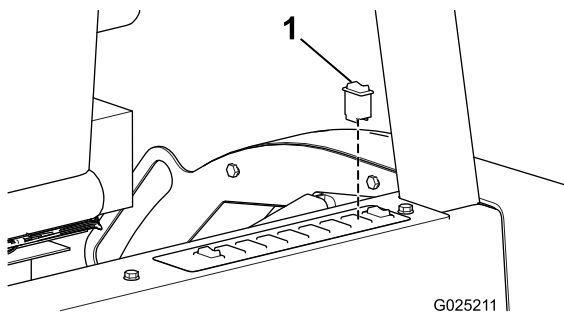

Figure 4
7. Remove the plug from the second switch position from the right on the control panel behind the seat (Figure 4).
9. Install the rocker switch into the open slot, ensuring that it seats into the connector under the switch plate (Figure 4).